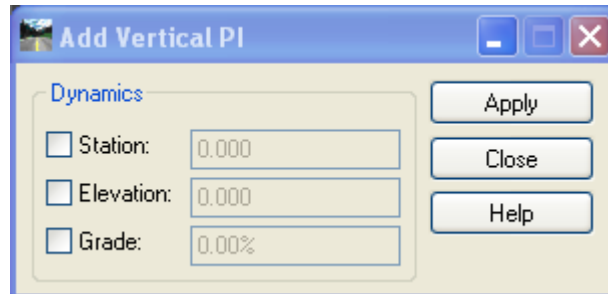

Figure 5-3 InRoads Add Vertical PI Dialog Box
- C. Select **Geometry > Vertical Curve Set > Add Vertical PI**. Figure 5-3 shows the Add Vertical PI dialog box. Click **Apply**. Tentative to the intersection of station 11+00 and the existing surface in the profile window and data point to accept.